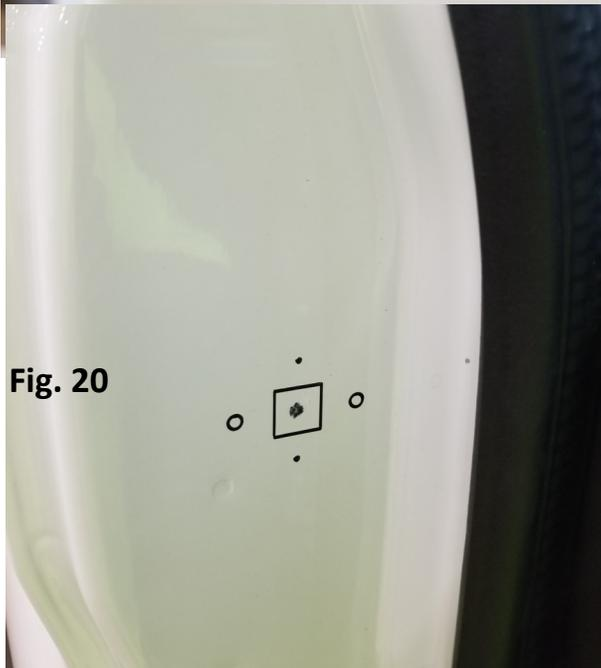

Fig. 20
25. Using the larger hole plate, mark the holes as shown in Fig. 20